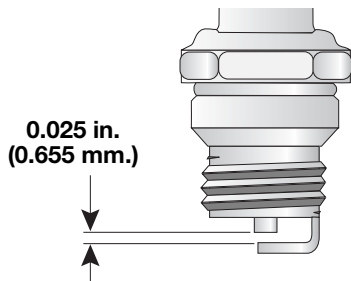

Fig. 23
3. Replace cracked, fouled or dirty spark plug. Set the air gap at 0.025 in. (0.655 mm.) using a feeler gauge (Fig. 23).